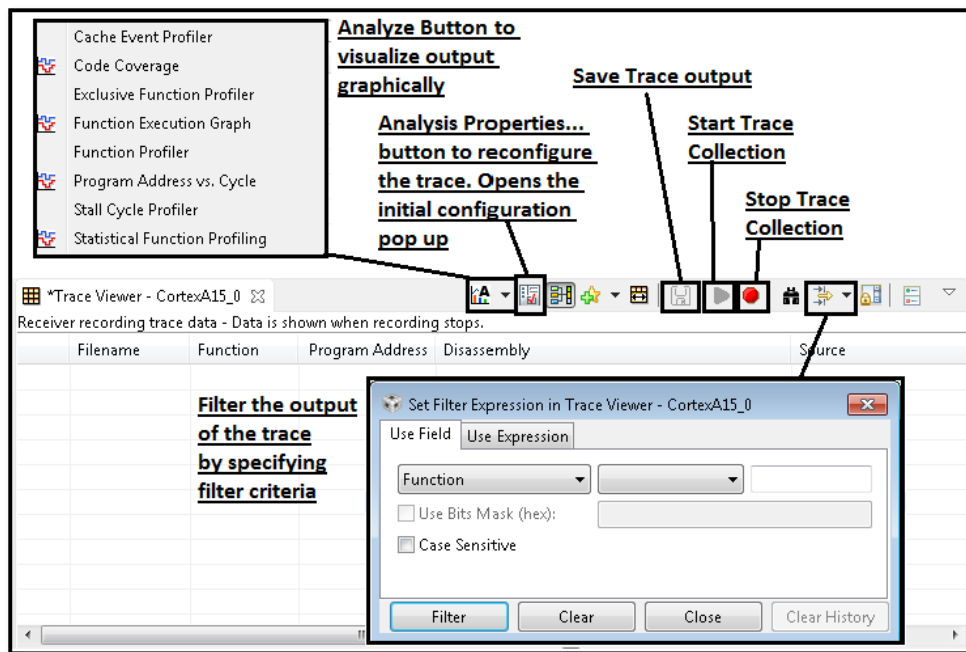

Figure 22. Trace Viewer Window and Controls
- On starting the trace functionality, CCS opens a Trace Viewer window (see **Figure 22**).